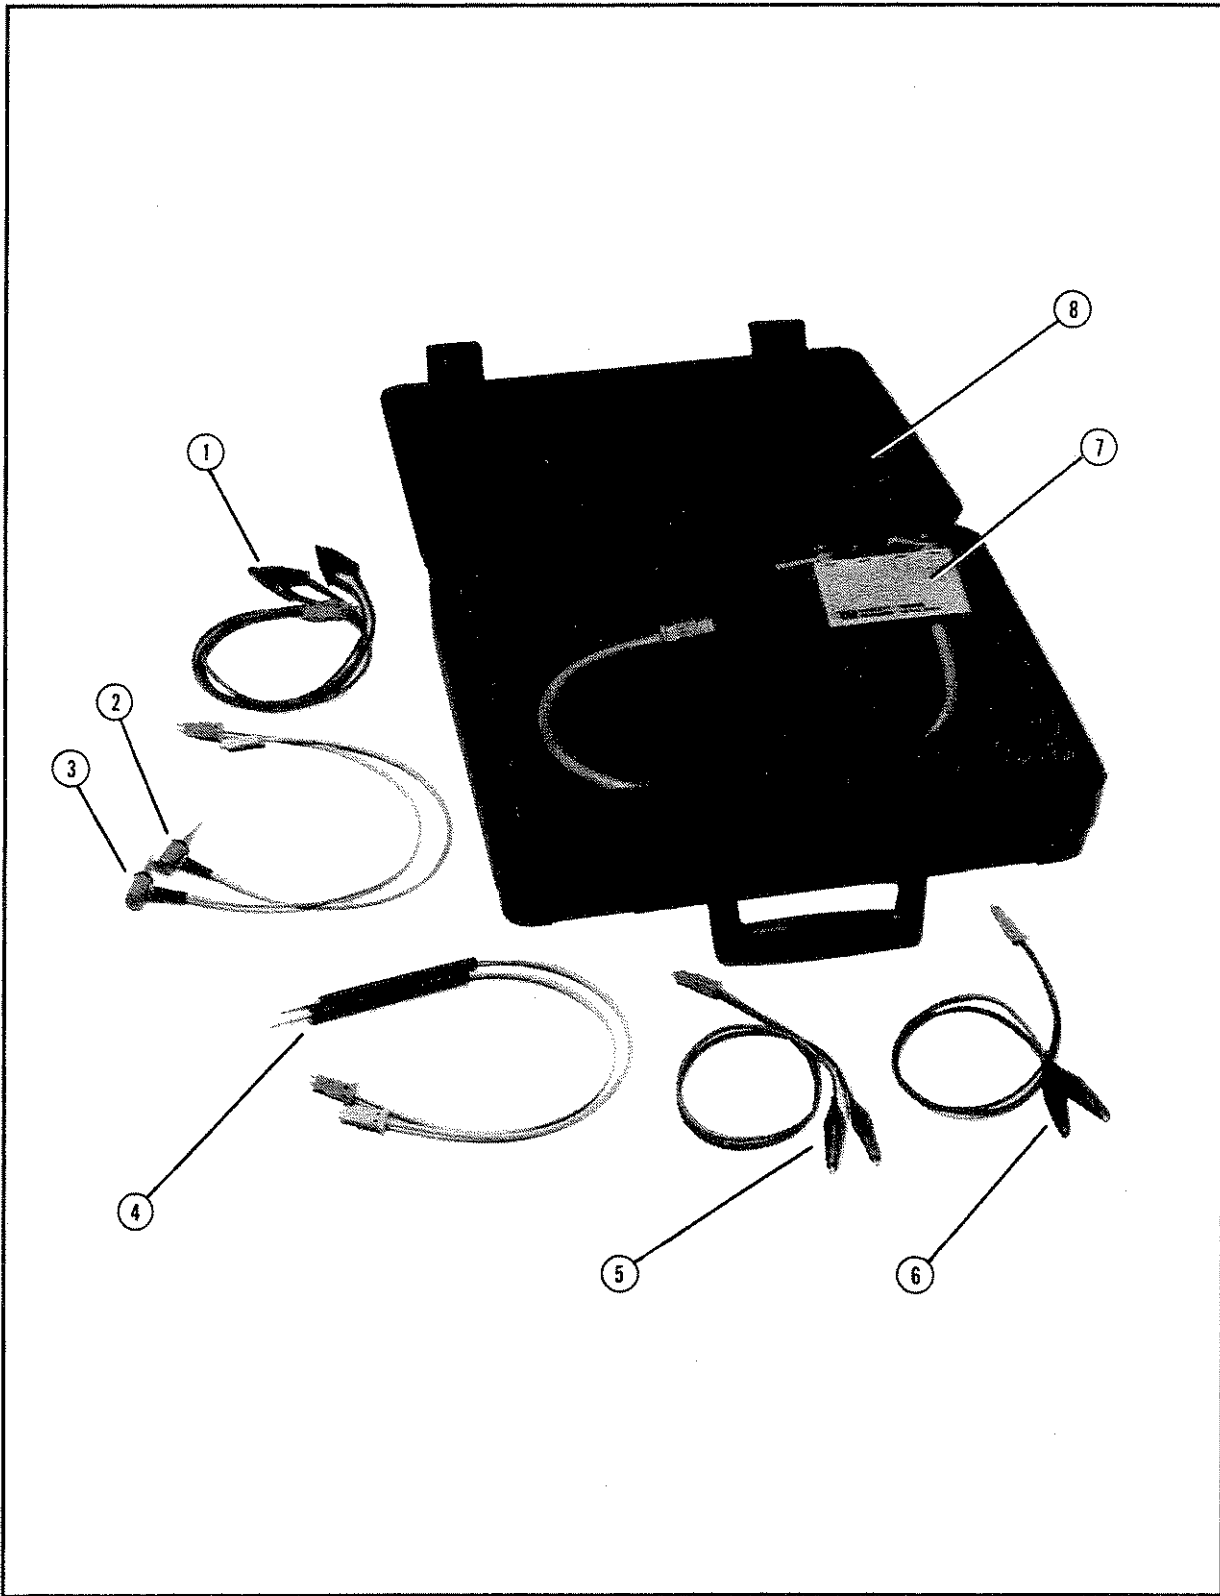

Figure 2-1. HP 16338A Product Overview
2. Verify that the shipping container contains everything shown in Figure 2-1 and listed in Table 2-1.